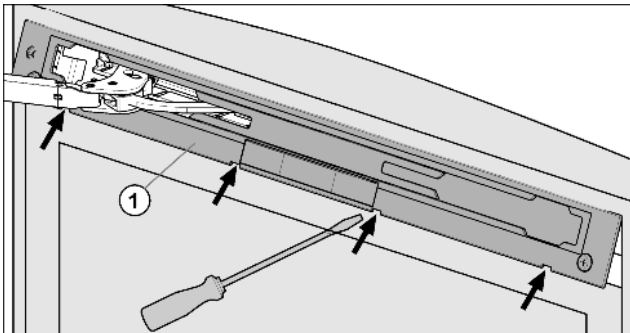

Fig. 14
- ▶ Release panel Fig. 14 (1) using slotted screwdriver and remove.